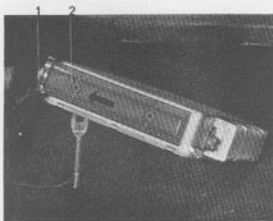

Fig. 2-184. Removing plastic cover
4. Remove the screw for the cap holding the cable harness to the control unit, see Fig. 2-184.